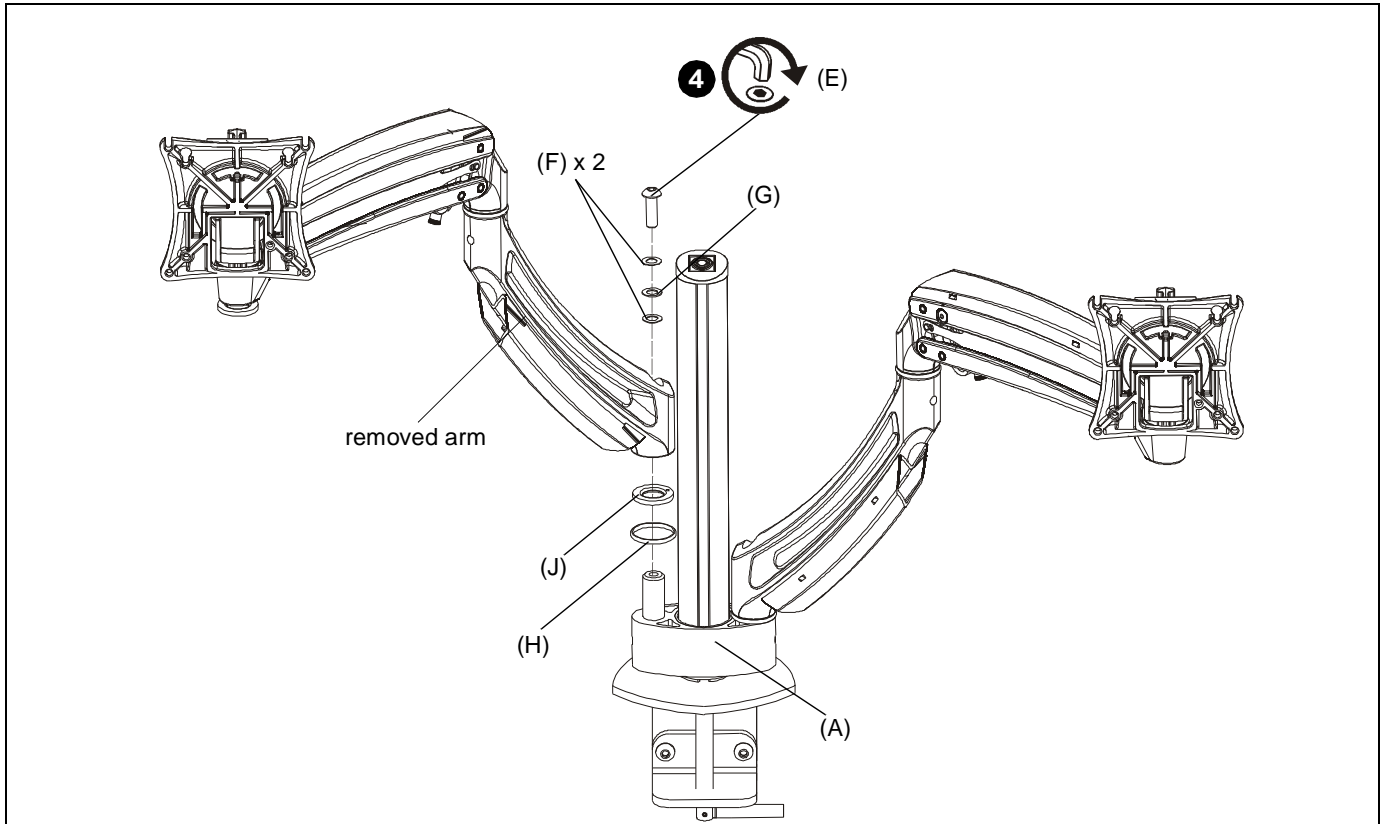

Figure 4
4. Use 5/16-18 x 1" button head cap screw (E), two UHMW washers (F), spacer (G), pivot ring (J) and metallic ring (H) to secure removed arm onto vacant pin on KRA211 assembly. (See Figure 4)